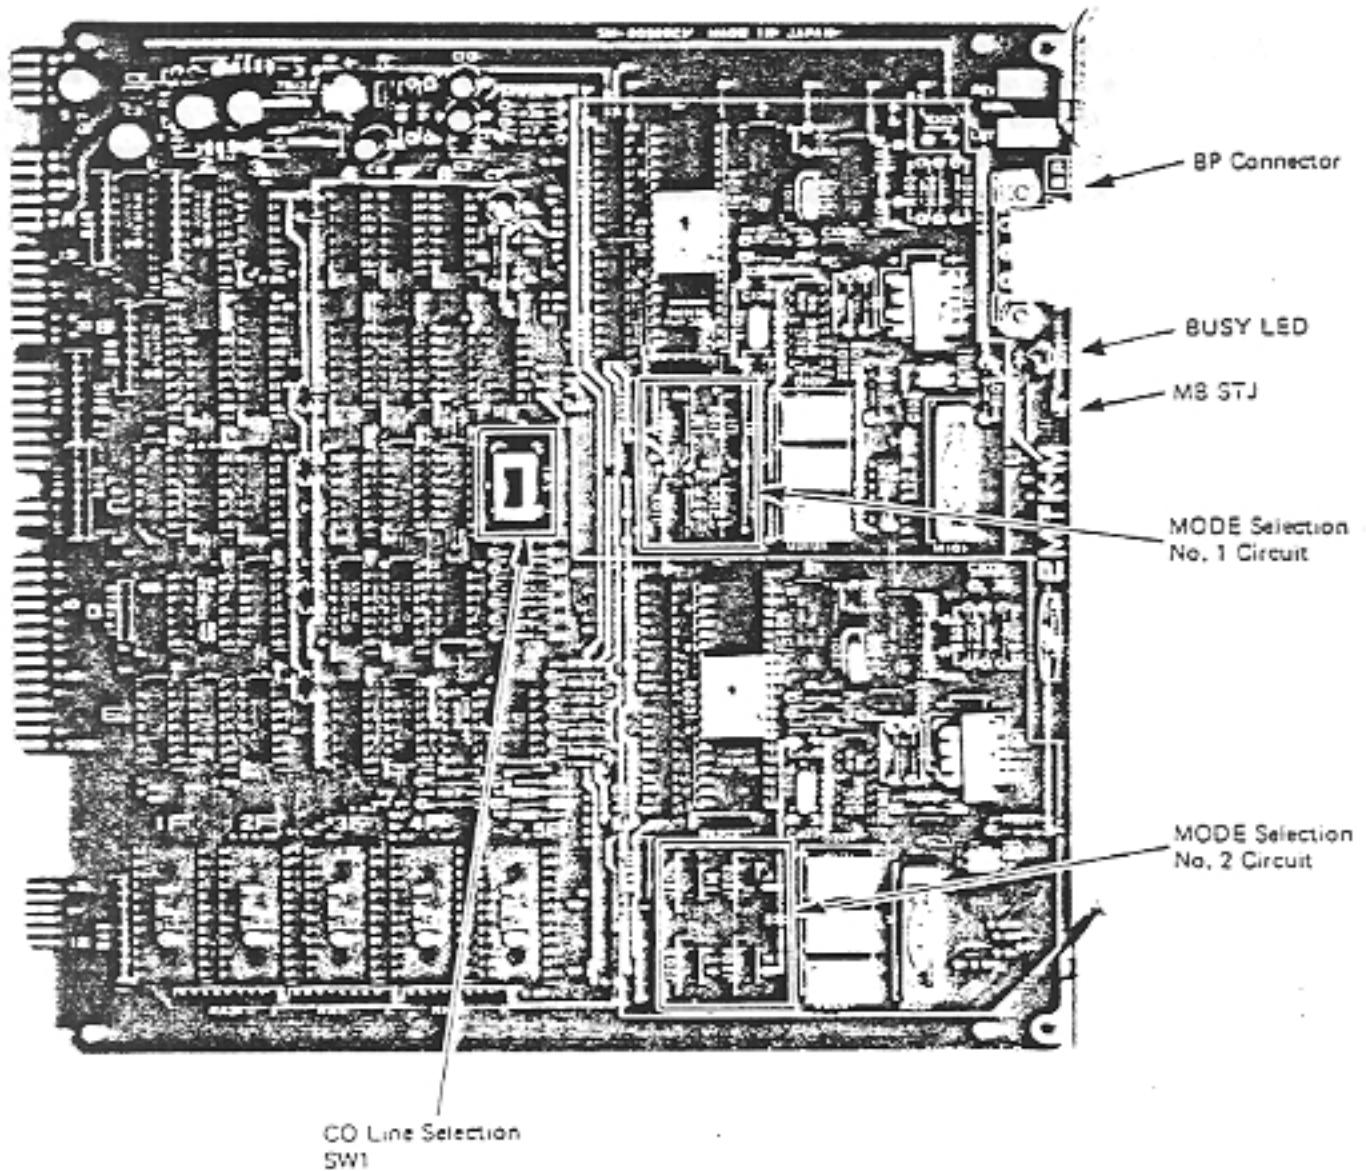

Figure 3.6.2.4.2.3 (1) External View of EMTK-M
(3) Installation precautions
- (b) Up to four CTRK-M/1 cards can be installed per system. They must be installed in the prescribed slots (see Figure 3.6.2.2(1)), never in any other slots.
(4) Operating procedure
Note: The EMTK-M card is inserted into an SUB card slot in the ICU. In this case, the extensions corresponding to that slot cannot be connected. Two CTRK-M1CO/PBX line circuits are used per EMTK-M card. This means that the ICU capacity decreases by two CO/PBX line circuits and four extension line circuits for every EMTK-M card installed. An external view of the EMTK-M card is shown in figure 3.6.2.4.2.3 (1) below.